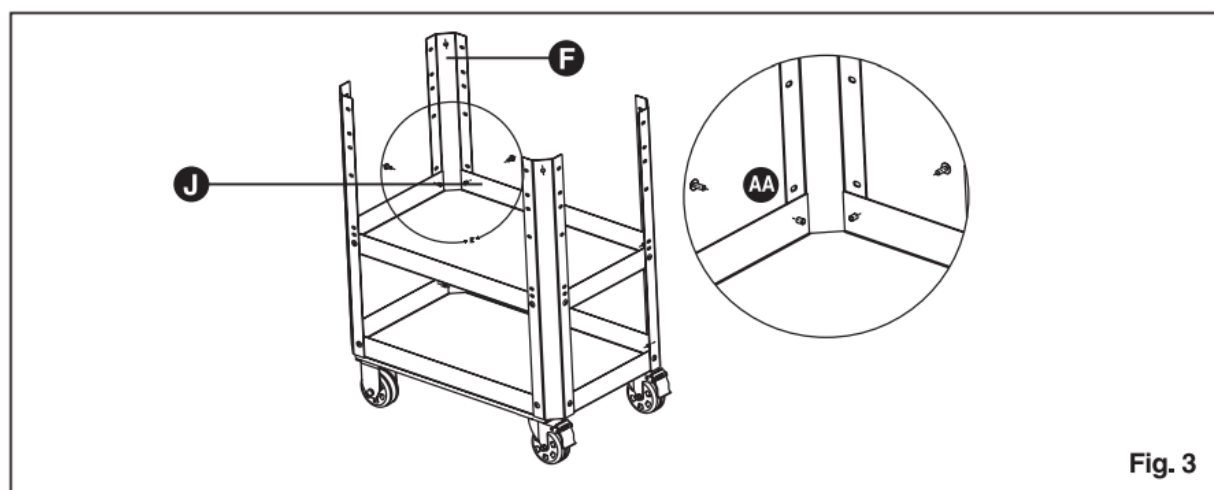

Fig. 3
- Place the middle tray (J) in the middle of the four legs (F), securing with eight M6 x 12mm Phillips head bolts (AA) and tighten to desired tightness with Phillips screwdriver PH3 (Fig. 3).